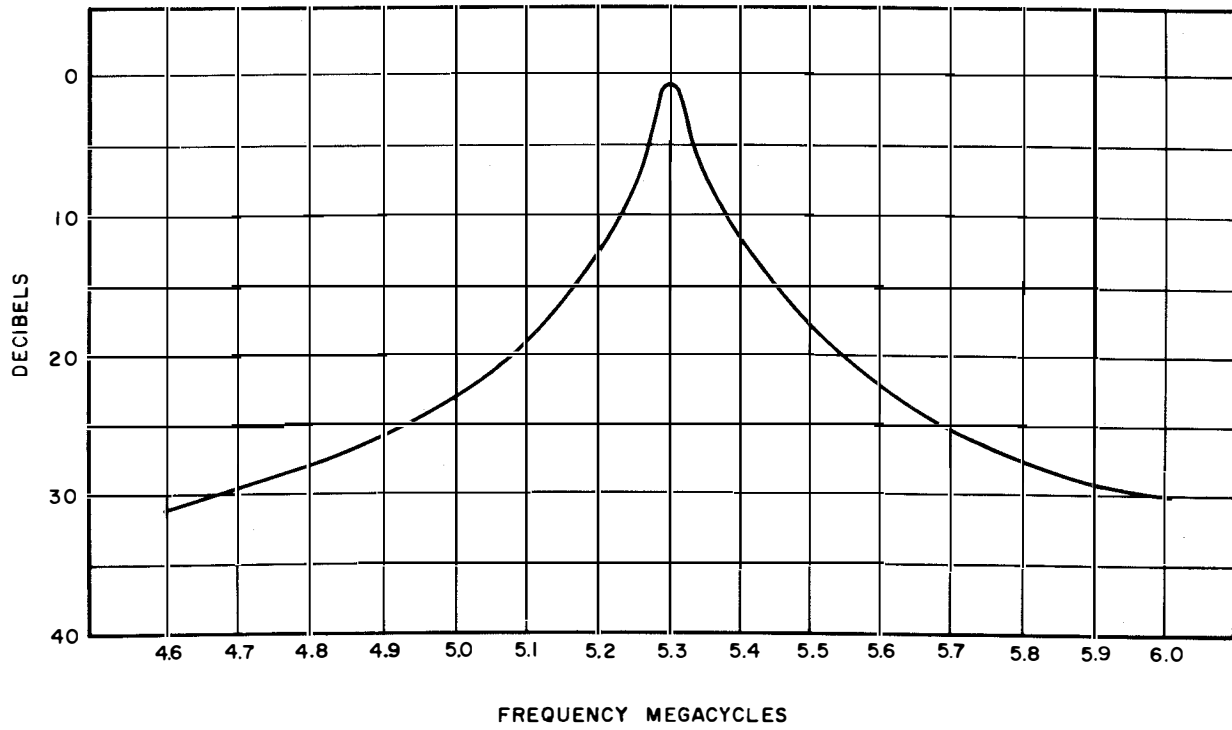

Figure 6-5. Typical Bandpass Response Curve For Antenna Coupler Group
The electrical equipment cabinet and equipment should be kept in a state of good repair at all times. The equipment shall also be free of dirt and foreign matter at all times. Proper preventive maintenance reduces the requirements for repair and maintains the proper operating characteristics of the equipment. Wide deviation from the operating characteristics (see figures 6-3 and 6-4 for typical curves) indicates the need for repair. Typical antenna-coupler-group bandpass characteristics, isolation factors and efficiency factors for Antenna Coupler CU-998/FRA-49(V) are given in figures 6-5, 6-6, and 6-7. The tuning and coupling curves for Antenna Coupler CU-999/FRA-49(V) are shown in figures 6-19 and 6-20. Routine or preventive maintenance shall be employed to forestall antenna coupler group breakdown or failure. The operating environment of the equipment shall be considered and the user shall determine the suitable maintenance interval as well as the period of time between maintenance checks. The following are maintenance checks: